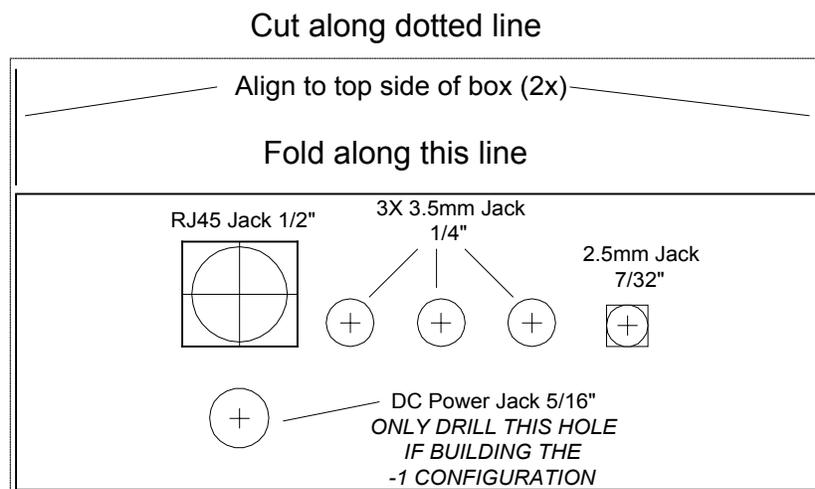

Figure 5.9 Enclosure Template
5.4.1 Drill Template - the drill template for the enclosure is show in figure 5.9, *Enclosure Template*, below. The drill templates are provided in the Interface Design Package from Discovery Bay Computing., where you can cut the templates from the sheet using scissors. Cut out the template along the dotted line. Fold the template along the top line, place this over the side of the enclosure. Line up the side edges of the enclosure with the lines at the top. Once aligned, tape the template to the box using clear tape. Mark the center of each hole to be drilled with a sharp pointed tool such as an awl, or the tip of the exacto knife. Next use the knife to score through the template on the lines of the square cutouts for the 2.5mm jack and the RJ45 jack. After this has been done, you can remove the template and proceed with drilling and trimming the enclosure. Note that the hole at the bottom left is only marked and drilled if you are building the -1 configuration. Be careful to drill the holes in the exact positions shown since they must align with the components of the circuit board.